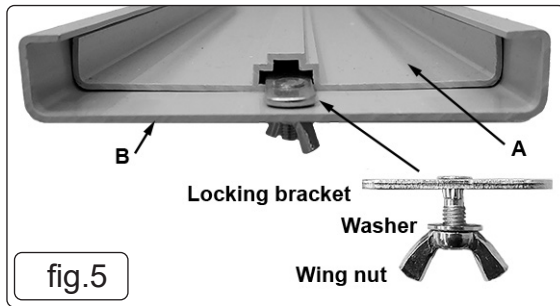
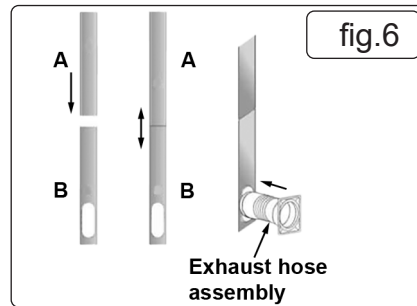

fig.5
fig.6
- 5.3.1. Locate window kit locking bracket's threaded shaft through hole in window kit part B (fig.5).
- 5.3.2. Attach washer and wing nut to threaded shaft (fig.5).
- 5.3.3. Slide window kit part A into part B (fig 6) and locate locking bracket plate into central slot on part A (fig.5).
- 5.3.4. Extend the adjustable window kit to suit the size of the window and tighten the wing nut (fig.5) to lock.
- 5.3.5. Attach exhaust hose assembly, see section 5.2, to window kit part B (fig.6).